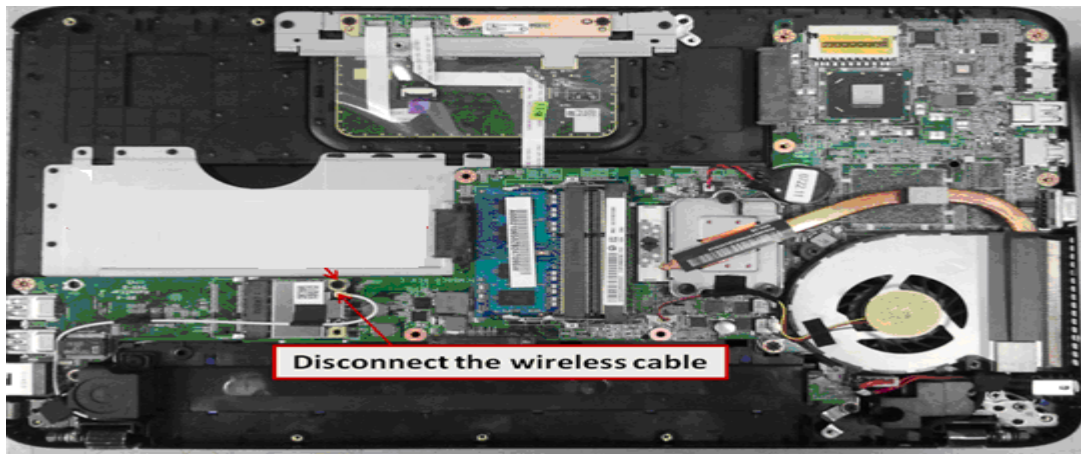

Figure 4-9-3 Disconnect the wireless cable
6. Disconnect the wireless cable and remove screws on PCB(See figure 4-9-3/4-9-4), then take out the board
2. Assemble wireless cable(see figure 4-9-3)